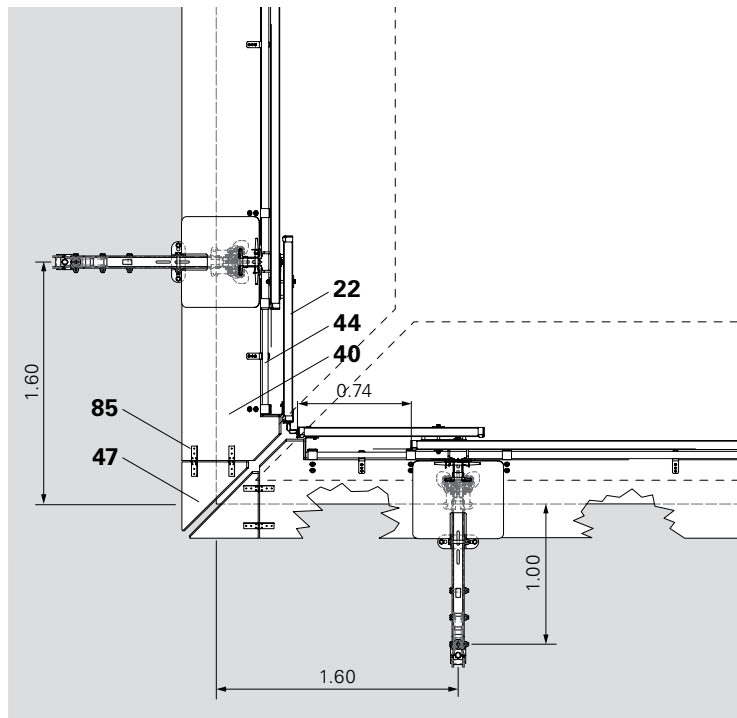

Fig. B3.07
For the climbing procedure, first fold up the Cover Plate for the internal corner (47), then fold up the foldable cover (40). (Fig. B3.07)